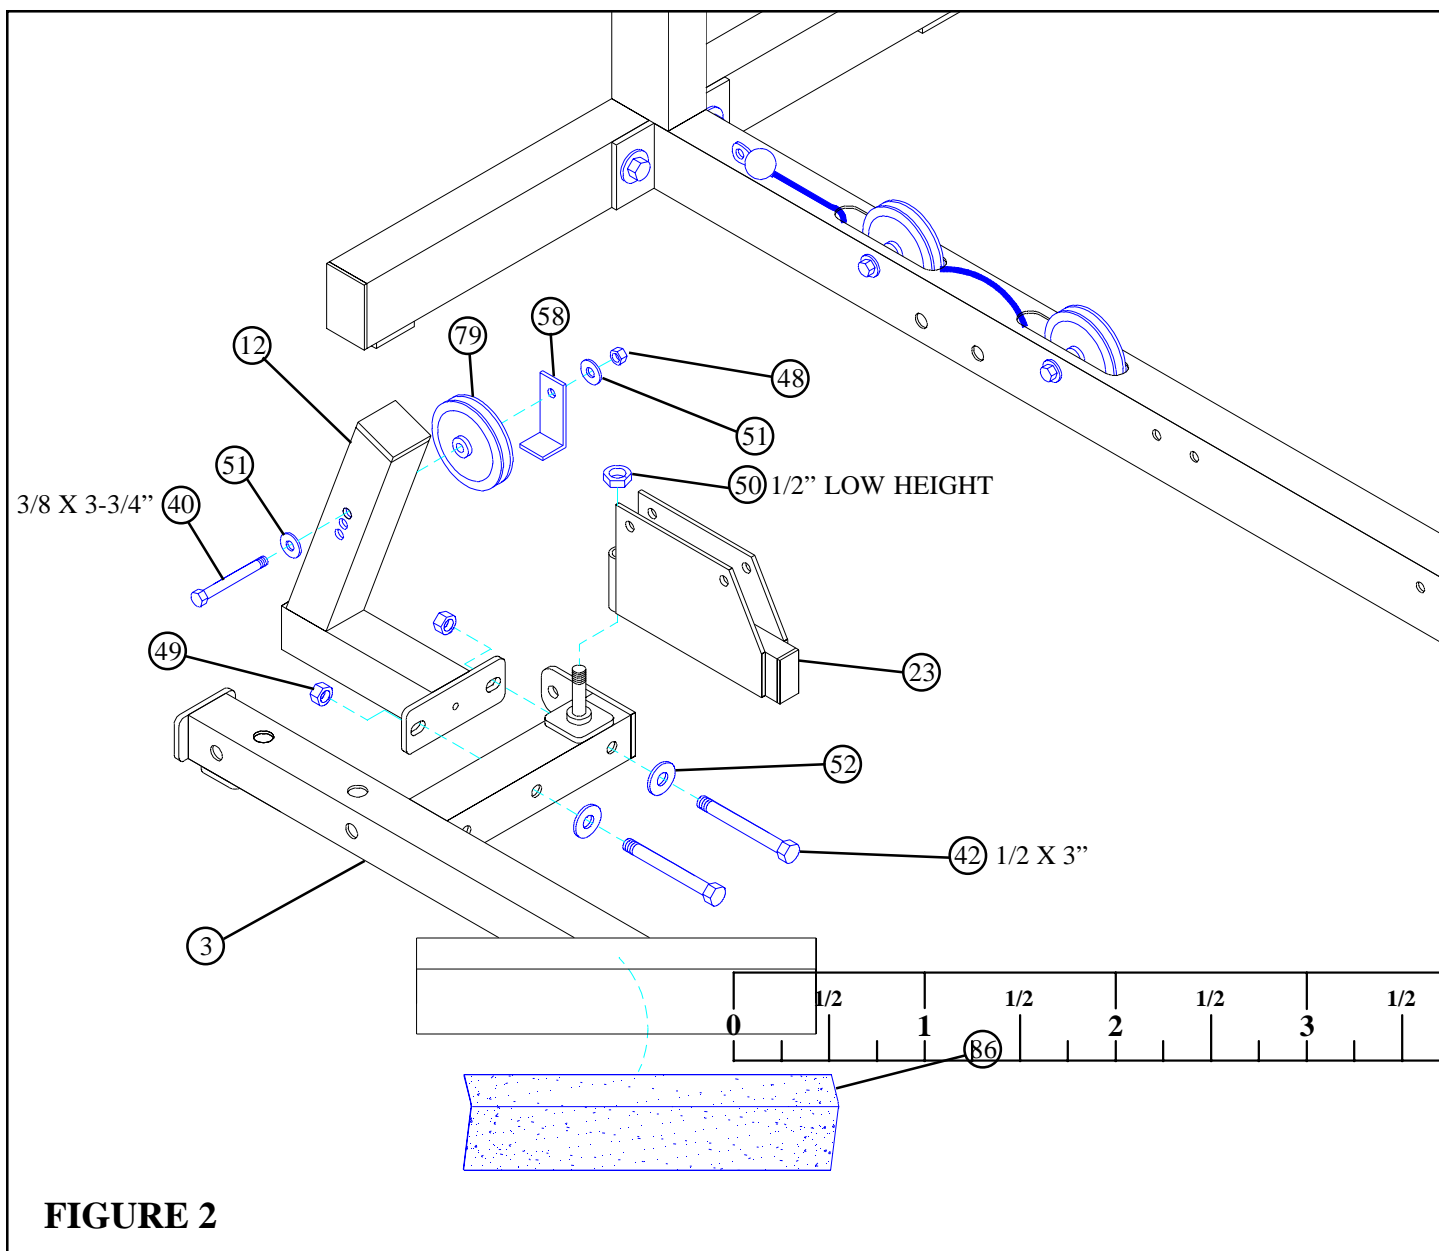

FIGURE 2
- Securely assemble one 3-1/2" PULLEY (79) to the top hole of the LEVER STOP (12) using one 3/8 X 3-3/4" BOLT (40), two 3/8" WASHERS (51), one 2-3/8" RETAINING CLIP (58), and one 3/8" LOCKNUT (48). The extra holes in the LEVER STOP (12) are to be used for cable adjustment.
- Securely attach LEVER STOP (12) to WEIGHT STACK BASE (3) using two 1/2 X 3" BOLTS (42), two 1/2" WASHERS (52), and two 1/2" LOCKNUTS (49).
- Attach SWIVEL PULLEY BRACKET (23) to the WEIGHT STACK BASE (3) using one 1/2" LOW HEIGHT LOCKNUT (50). (**NOTE:** Securely tighten, then back nut off 1/4 turn to allow the SWIVEL PULLEY BRACKET (23) to rotate freely.)
- Center 4 X 14" NON SKID STRIP (86) on WEIGHT STACK BASE (3) as shown in FIGURE 2.